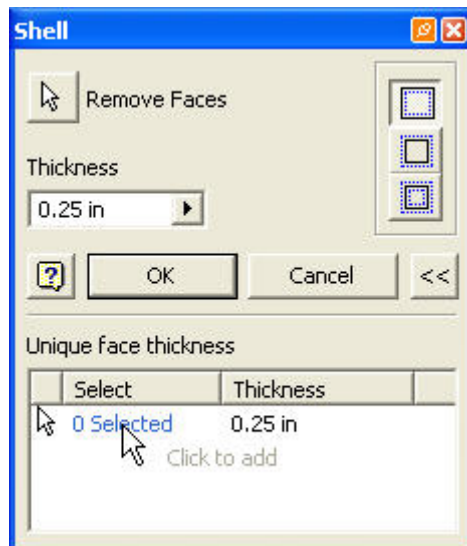

Figure 6
7. Move the cursor in the white area of the dialog box and click where the words **Click to add** are located as shown in Figure 6.